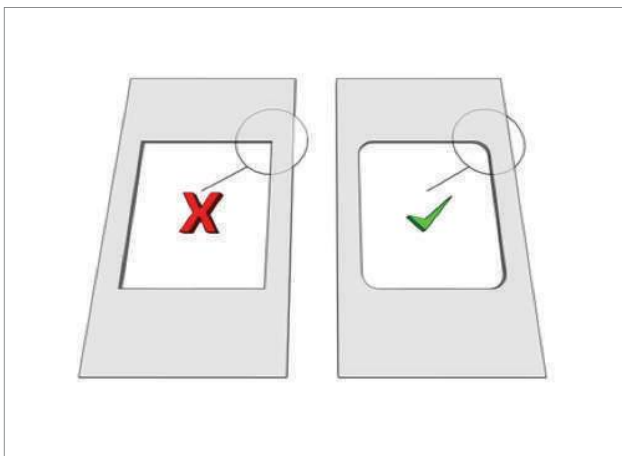

Fig.1
- Always machine a radius around these corners and make the radius as large as practical, ($R \geq 5$ mm). (Fig.1). Never leave a sharp corner or do not leave any sharp edge.